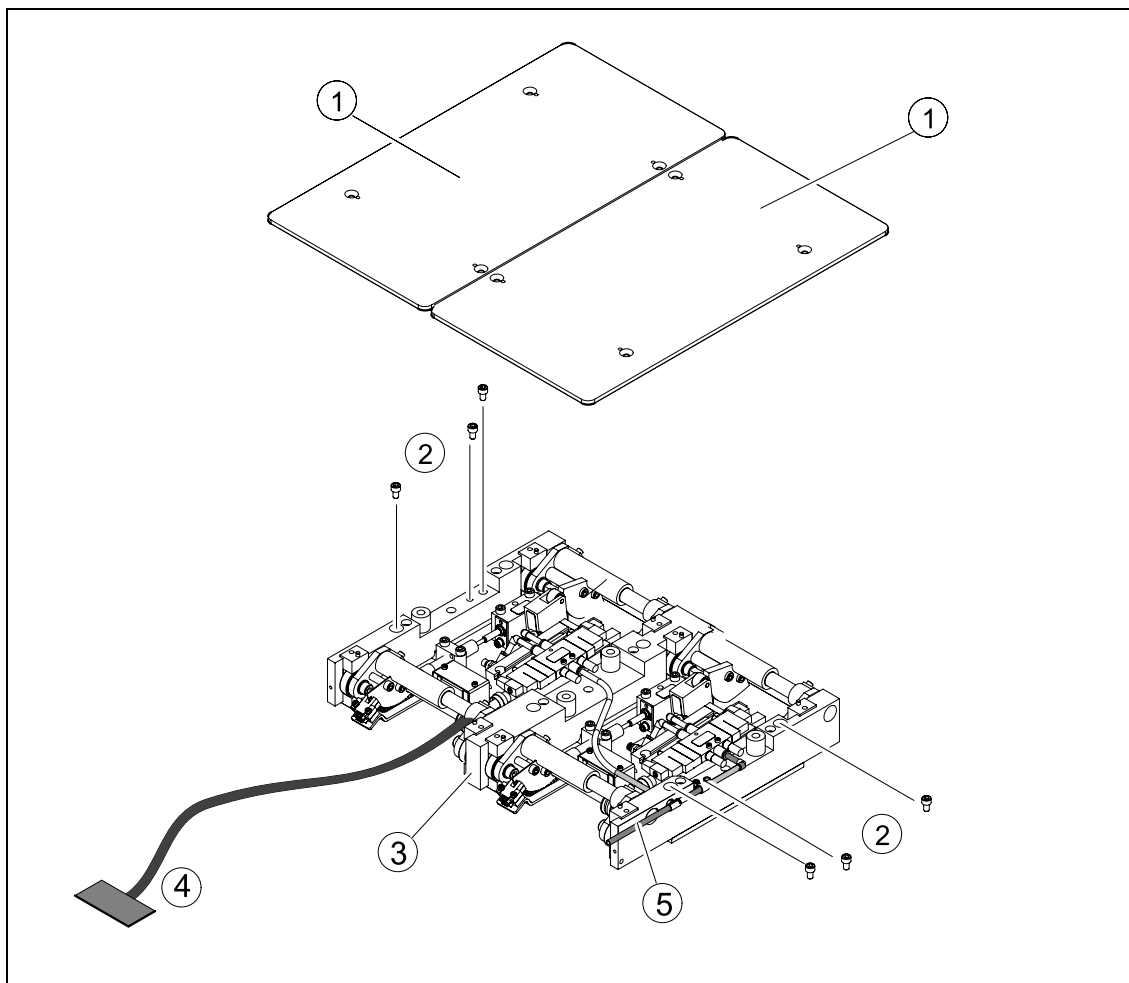

Fig. 6.11.9 Replacing the lifting table
- Undo the screws fastening the lifting table plate and remove the lifting table plate from the lifting table unit. See also Fig. 6.11.9
- (1) Solenoid valve with 2 fastening screws
- (2) Connection plug
- (3) Pneumatic connections